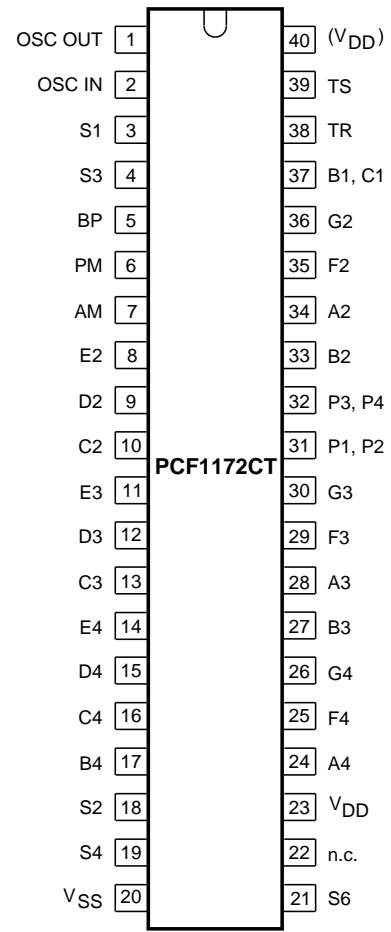

Fig.1 Pin configuration, PCF1172CT, (VSO40).
1. See Fig.1 and Chapter "Package outline" for pin layout and package details.